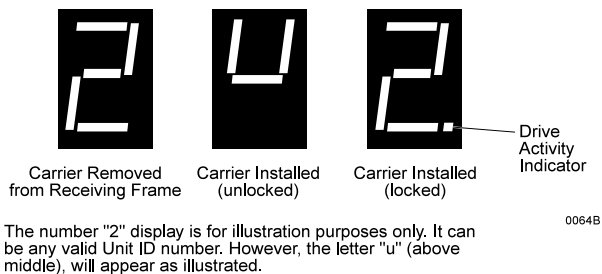

Figure 4: Receiving Frame Unit ID Number and Activity Display
- **Key Lock/Drive Power Switch** performs three (3) functions. The key lock assures proper seating of the drive carrier within the receiving frame, turns power to the drive carrier on and off, and prevents unauthorized removal or installation of the carrier. For the computer to access data on the DE100i-A100 drive, the key must be turned *counterclockwise* to the locked position.
- **Unit ID Number Display** (Figure 4) shows the physical address of the DE100i-A100 drive carrier when the carrier is *Installed and Locked* in the receiving frame or *Removed* from the receiving frame. If the drive carrier is *Installed but Not Locked*, a "u" will be displayed. The unit ID number is selected by means of the unit ID select switch located inside the receiving frame using a special alignment tool supplied with the DE100i-A100. This procedure is explained later during the installation process.
- **Device Spin Down/Up Timer Jumper (J6):** Jumper installed (Factory Default) enables device spin down/up visual indicator. Receiving frame unit ID number display (Figure 4) will flash to indicate device spin down/up.
Jumper removed (factory default) disables drive activity indicator (Figure 4).